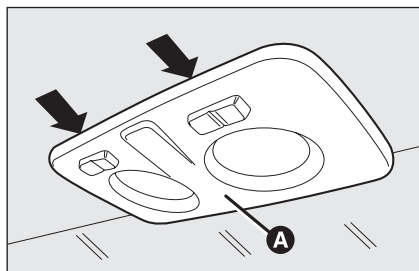
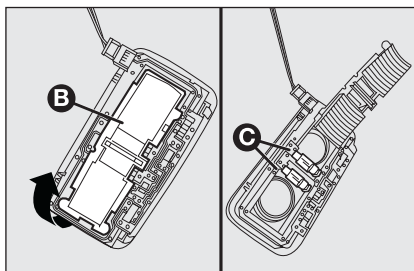

fig. 39
fig. 40
- ☐ work in the points shown by the arrows and remove light **A**-fig. 39;
- ☐ open the protection door **B**-fig. 40;
- ☐ close the door **B**-fig. 40 and secure the ceiling light **A**-fig. 39 in its housing locking it properly.